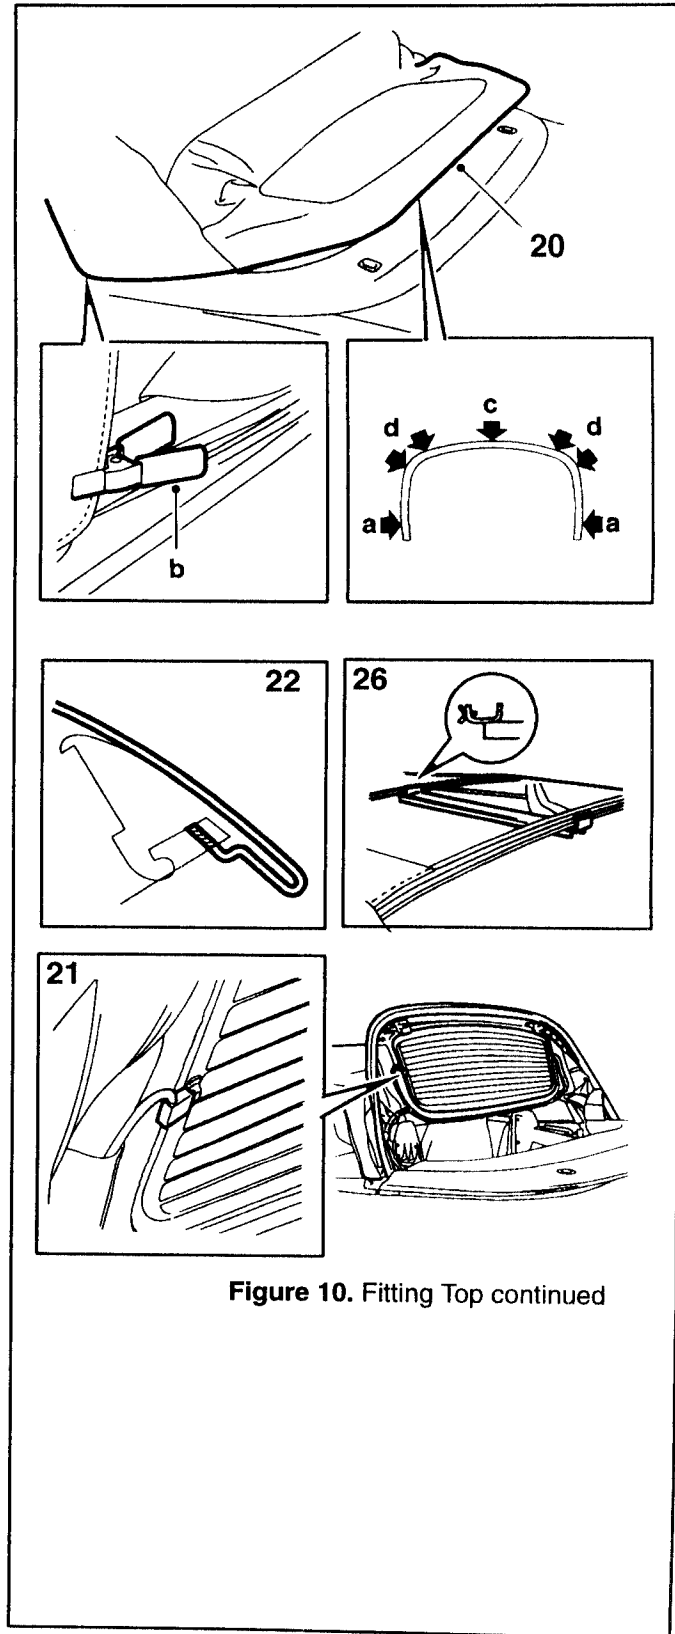

Figure 10. Fitting Top continued
See Figure 10.
21. Insert the wiring for the rear window heating element through the top fabric and plug in the connectors. See Figure 10.
22. Cut away surplus fabric around the fifth bow using a razor blade or carpet knife. Cut on the inside of the sealing strip's outer flange so that excess glue will be concealed by the 5th bow seal. Make sure that the flange for the 5th bow seal is visible. See Figure 10.
26. Secure the fourth bow to the third bow, using special tool P/N 82 93 045. The edge of the tool which enters the groove at the rear of the 4th bow may have to be filed slightly to fit. See Figure 10.
- 33. Pop rivet the rear side elastic straps to the top frame's center rails. See Figure 10.